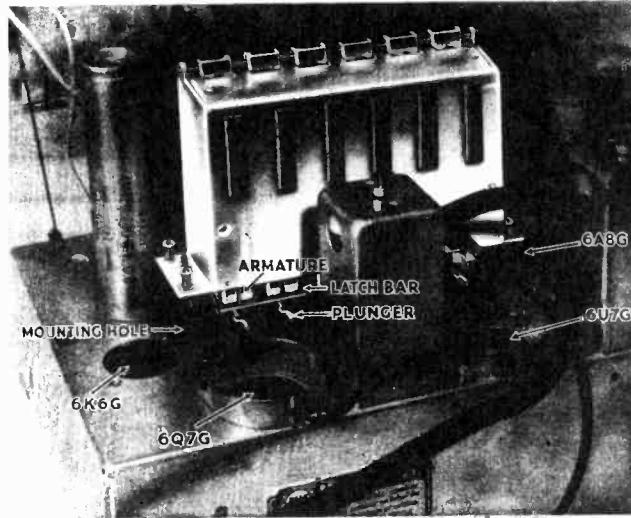

FIG. 3
9. Rest the Magnet Assembly on the chassis base and move it slightly toward the back of the radio until the locating pins (see Fig. 1) on each side of the Magnet Assembly frame slip into the locating holes at both sides of the opening in the chassis base (see Fig. 3).
7. Referring to Fig. 3, place the Magnet Assembly in position as shown so that the slots in the armatures are directly over the plungers. Now, carefully lower the Magnet Assembly so that the plungers enter the slots in the armatures. A screw-driver will be helpful in lining up any armature which may not be directly over the plungers.
8. The armatures must slip over the plunger between the latch bar and the shoulder of the plunger (see Fig. 3), also, refer to drawing (Fig. A, Page 8) which illustrates this point more clearly.